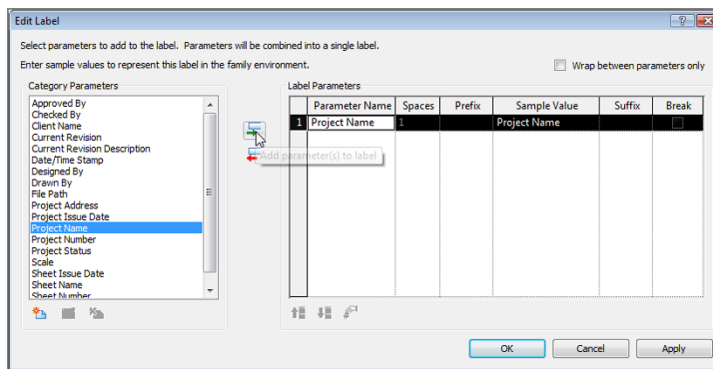

FIGURE 14.28: Adding the project name to the label
1. Select Project Name, and click the Add Parameter(s) To Label button, as shown in Figure 14.28.